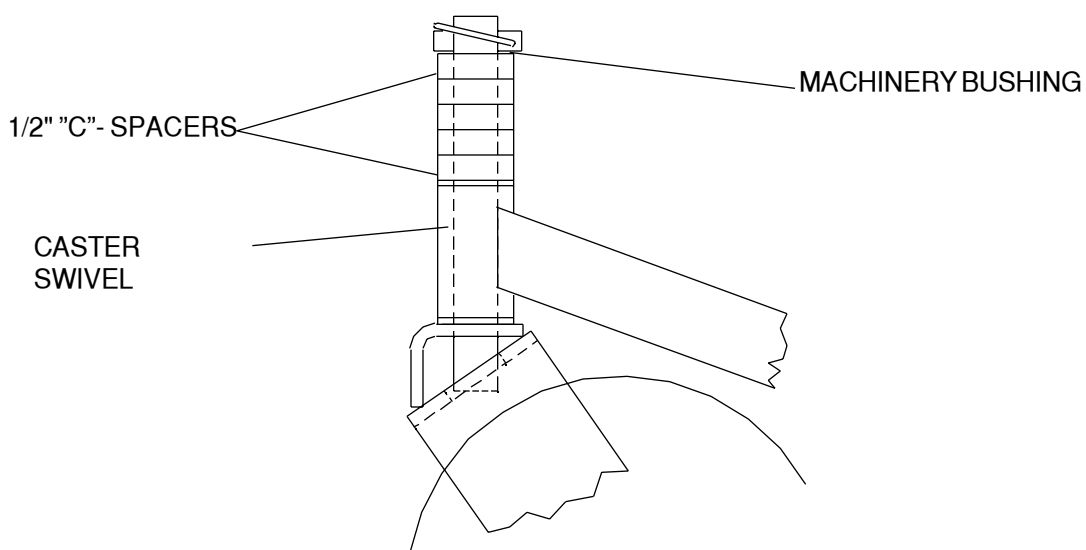

Figure 2
5. Using the chart (on page 7), find the correct number of spacers to be placed under the caster swivel. (see fig. 2)